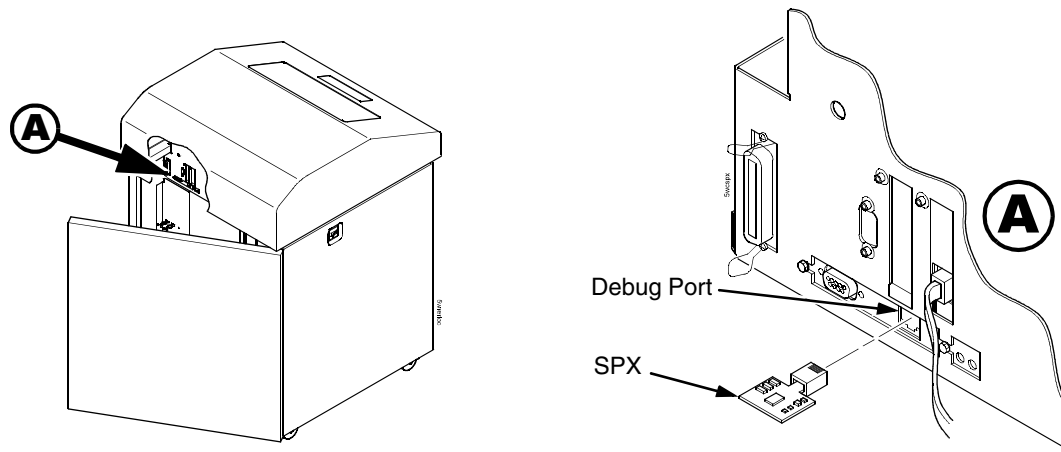

Figure 11. This figure shows where to insert the SPX.
3. Insert the SPX into the debug port, as in Figure 11.